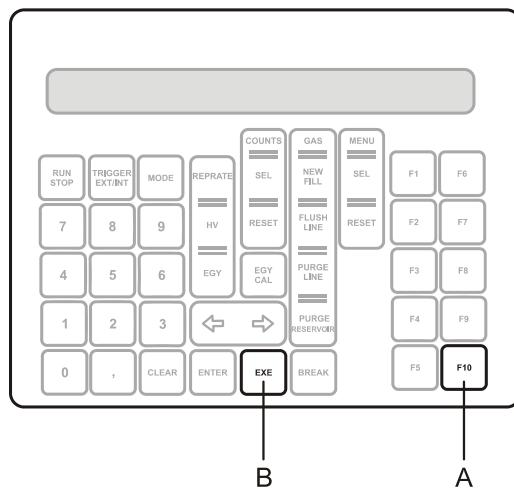

Figure 66: Preparing the laser device for shut down
1. Press <F10> (see Figure 66, A)